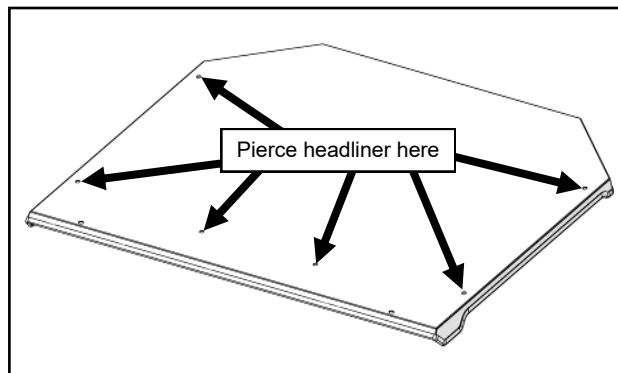

Fig. 13.1 (Roof Preparation)
13.1 Per figure 13.1, pierce the headliner in (6) places where the rubber plugs were previously removed. Use a screwdriver to poke holes through the headliner from the headliner side up through the hole in the roof to avoid having the headliner pull away from its glued surface.